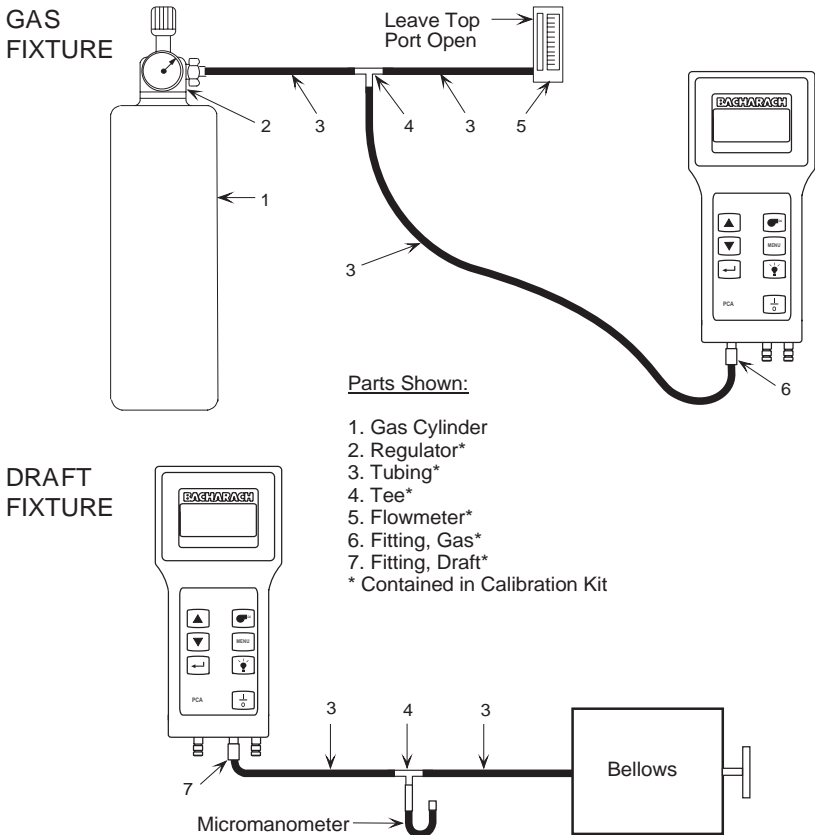

Figure 5-1. Calibration Fixtures
Assemble the appropriate fixture, shown in Figure 5-1, as required by the calibration procedure being performed.
3. Using the Gas Fixture shown in Figure 5-1, attach the Nitric Oxide calibration-gas cylinder to the analyzer's GAS inlet.